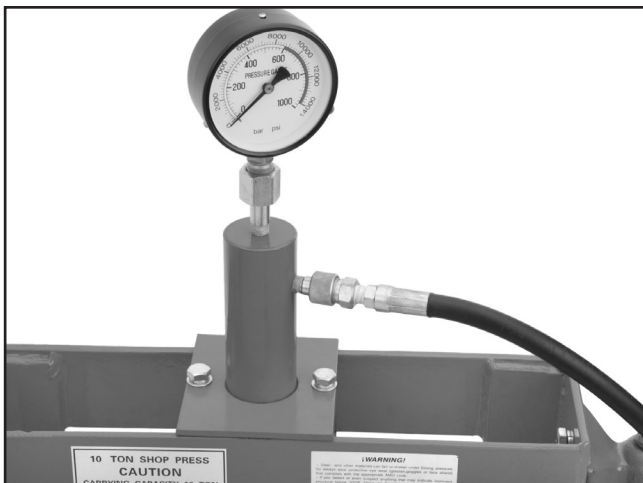

Figure 8. Hose and pressure gauge.
11. Coat the threads on the end of the hydraulic pump hose with hydraulic sealant and thread it into the pressure head assembly as shown in **Figure 8**.